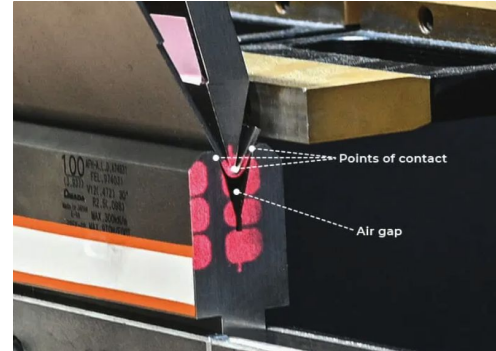

Figure 1.1
- Successful bending requires three points of contact between the part, the punch, and the die (see Figure 1.1):